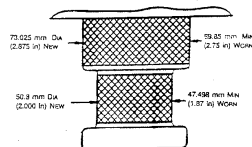

FIGURE 1—KINGPIN WEAR LIMITS
3. Figure 1 shows minimum diameters and allowable areas for wear on kingpins. Check diameter at several points around the kingpin in order to detect and measure nonuniform wear conditions. Kingpin wear is restricted to areas shown in Figure 1 in crosshatch. Wear on non-crosshatched areas is not acceptable.